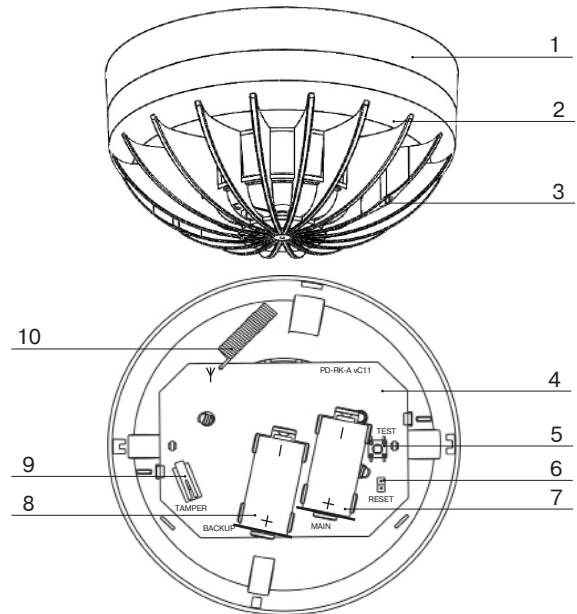

Figure 1
The Detector outside view is shown in Figure 1.
10.2 Press and release the arm of sensing element, ensuring control of the Detector removal from the base (9) (see Figure 1).
Press the operability test button (5) (Figure 1) and hold it during not less than 5 s, until the Detector switches «Fire» LED indication and preset sound signal. Make sure that «Fire» alarm message at correspondent zone is received. You can also use test aerosol for verification.